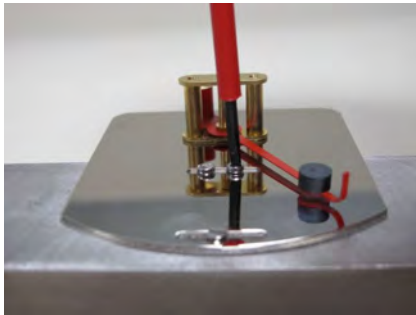

Fig. 68
15. ▶ Set the display base plate on the device body and lightly tighten the fixing screws, so that the base plate can still be moved (Fig. 68). Make sure that the countersunk head screw is used for the long groove (pointer tip end) and the two (2) cylinder head screws are used for the base center.